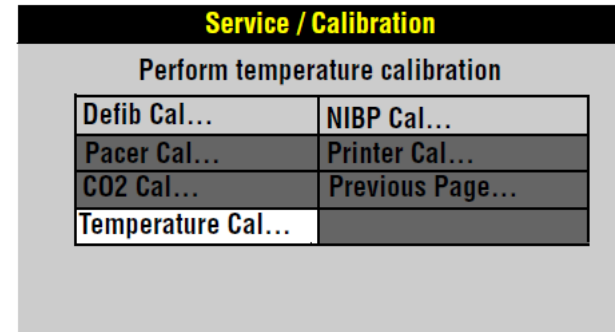

Figure 2.3—Calibration selection
4. Select the Temperature Cal from the Service /Calibration menu as shown in Figure 2.3.